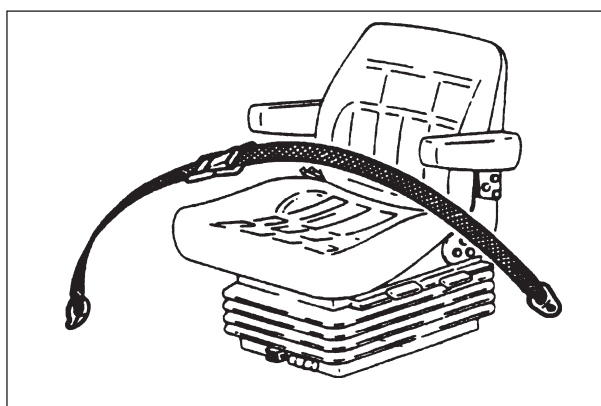

Fig.2-2
- Seat belts must always be worn and adjusted snugly (Fig.2-2).
- From time to time, check the seat belt for damage and replace it if worn or damaged (Fig.2-2).